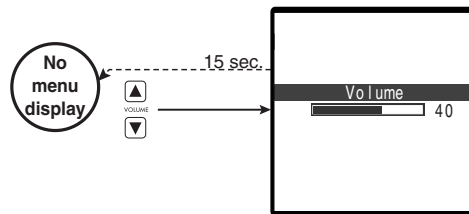

Figure 3-3 — Volume on-screen display
- ④ **Volume ▲ and ▼ buttons** — The Volume buttons regulate the volume level of the selected audio input. Use the Volume buttons to increase and decrease the audio level for the current input. Press and release a button to raise or lower the volume level by one step, or press and hold a button to change the level continuously. The on-screen display (figure 3-3) shows a quantitative volume measurement for 15 seconds.